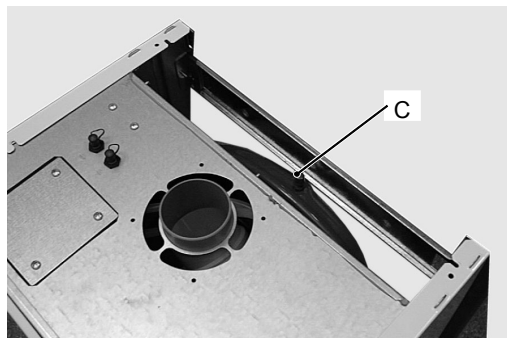

Figure 2
- 2) Remove the protective cap C (Figure 2) from the valve on the top of the c.h. expansion vessel and connect a suitable air pressure gauge.